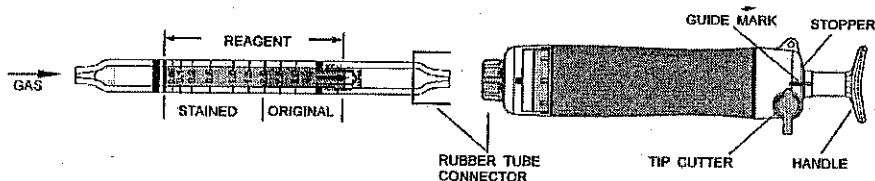

Fig.1
- ① Break both ends of the detector tube.
- ② Insert the detector tube into the aspirating pump securely as shown in Fig.1. (Arrow mark shall point to the pump.)
- ③ Align the guide marks on the shaft and stopper of the aspirating pump.
- ④ Pull the pump handle at a full stroke until it locks and wait for 1.5 minutes or until the completion of sampling is confirmed with the flow indicator of the pump. (See descriptions about the flow indicator in the instruction manual of the pump)
- ⑤ On completion of sampling, read the scale at the maximum point of the stained layer.
- ⑥ When the concentration is over the scale range, a 1/2 pump stroke can be used to determine concentrations of 1.0 - 5.0%.